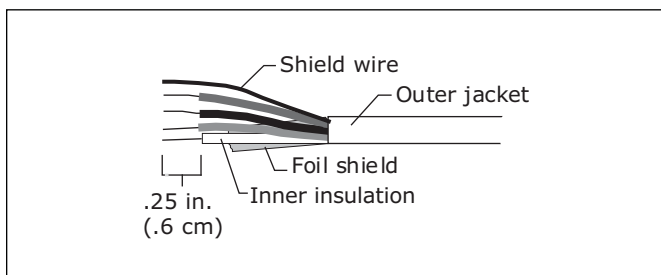

Figure 11
5. Partially cut, then bend and pull off the outer jacket of the Rnet cable(s). Do not nick the inner insulation. (See Figure 11)